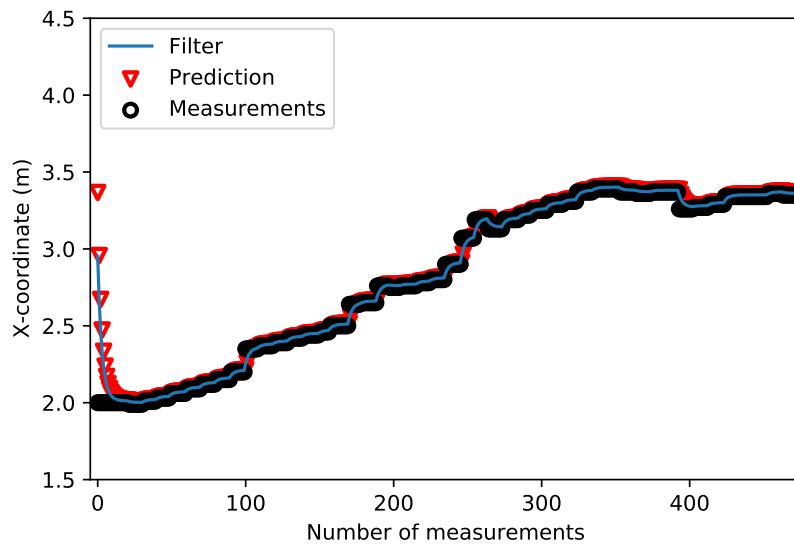
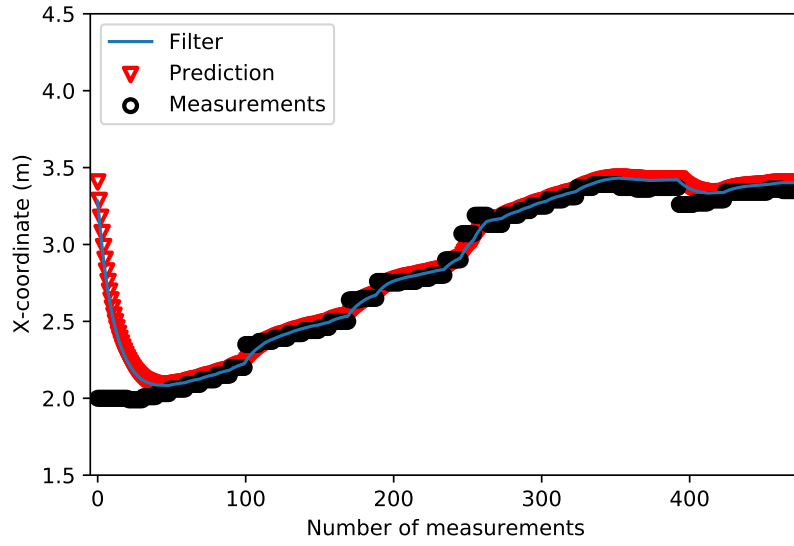

Figure 6: Single movement plot with  $\text{sensor\_var} = 0.077 ** 2$
Figure 7: Single movement plot with  $\text{sensor\_var} = 0.3 \times 2$
- A bigger sensor measurement variance can make the localisation trajectory from Figure 6 smoother, which is closer to the real movement process, as shown in Figure 7.